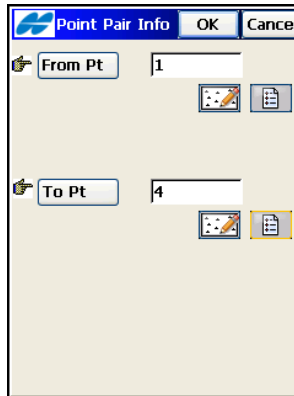

Figure 10-25. Point Pair
1. Press the **Add** button to enter pairs of points / plane positions. for obtaining transformation parameters. After all necessary pairs are defined, tap **Next**. The *Point Pair Info* screen displays (Figure 10-25 on page 10-23).